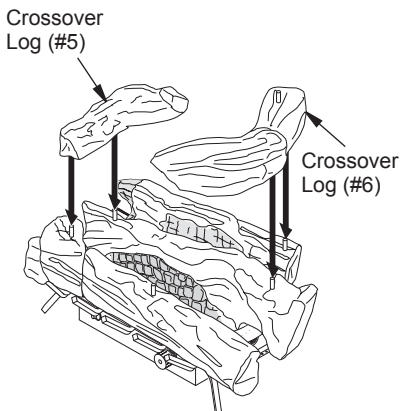

Figure 24 - Installing Crossover Logs (#5 and #6)
4. Place crossover log (#5) onto the pin (left) on middle log (#1) and onto the pin on front left log (#3) (see Figure 24).
5. Place crossover log #6 onto the pin (right) on middle log (#1) and onto the pin on back log (#2) (see Figure 24).